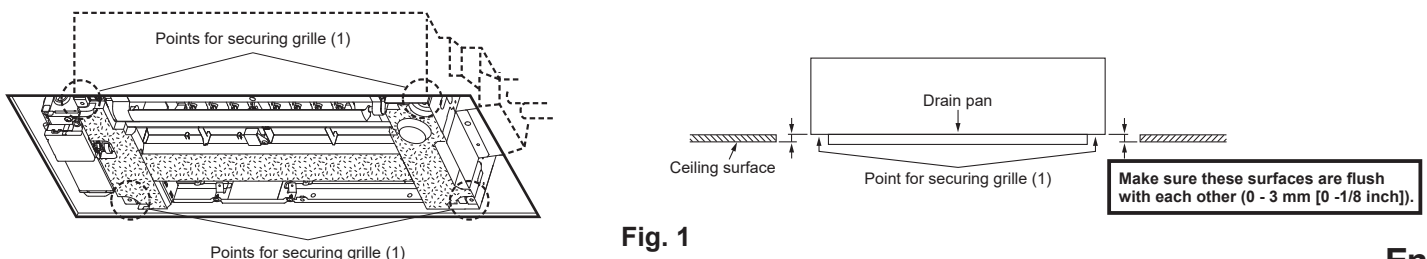

Fig. 1
- Before installing the grille (1), make sure the indoor unit is square with the ceiling opening (or parallel to the wall-ceiling joint).
- **Check that the 4 points for securing the grille (1) on the indoor unit are level with the ceiling surface.**
Use the installation template supplied with the indoor unit to arrange the position of the indoor unit so that the 4 points for securing the grille (1) are level with the ceiling surface with a tolerance of 3 mm (1/8 inch). (Fig. 1)